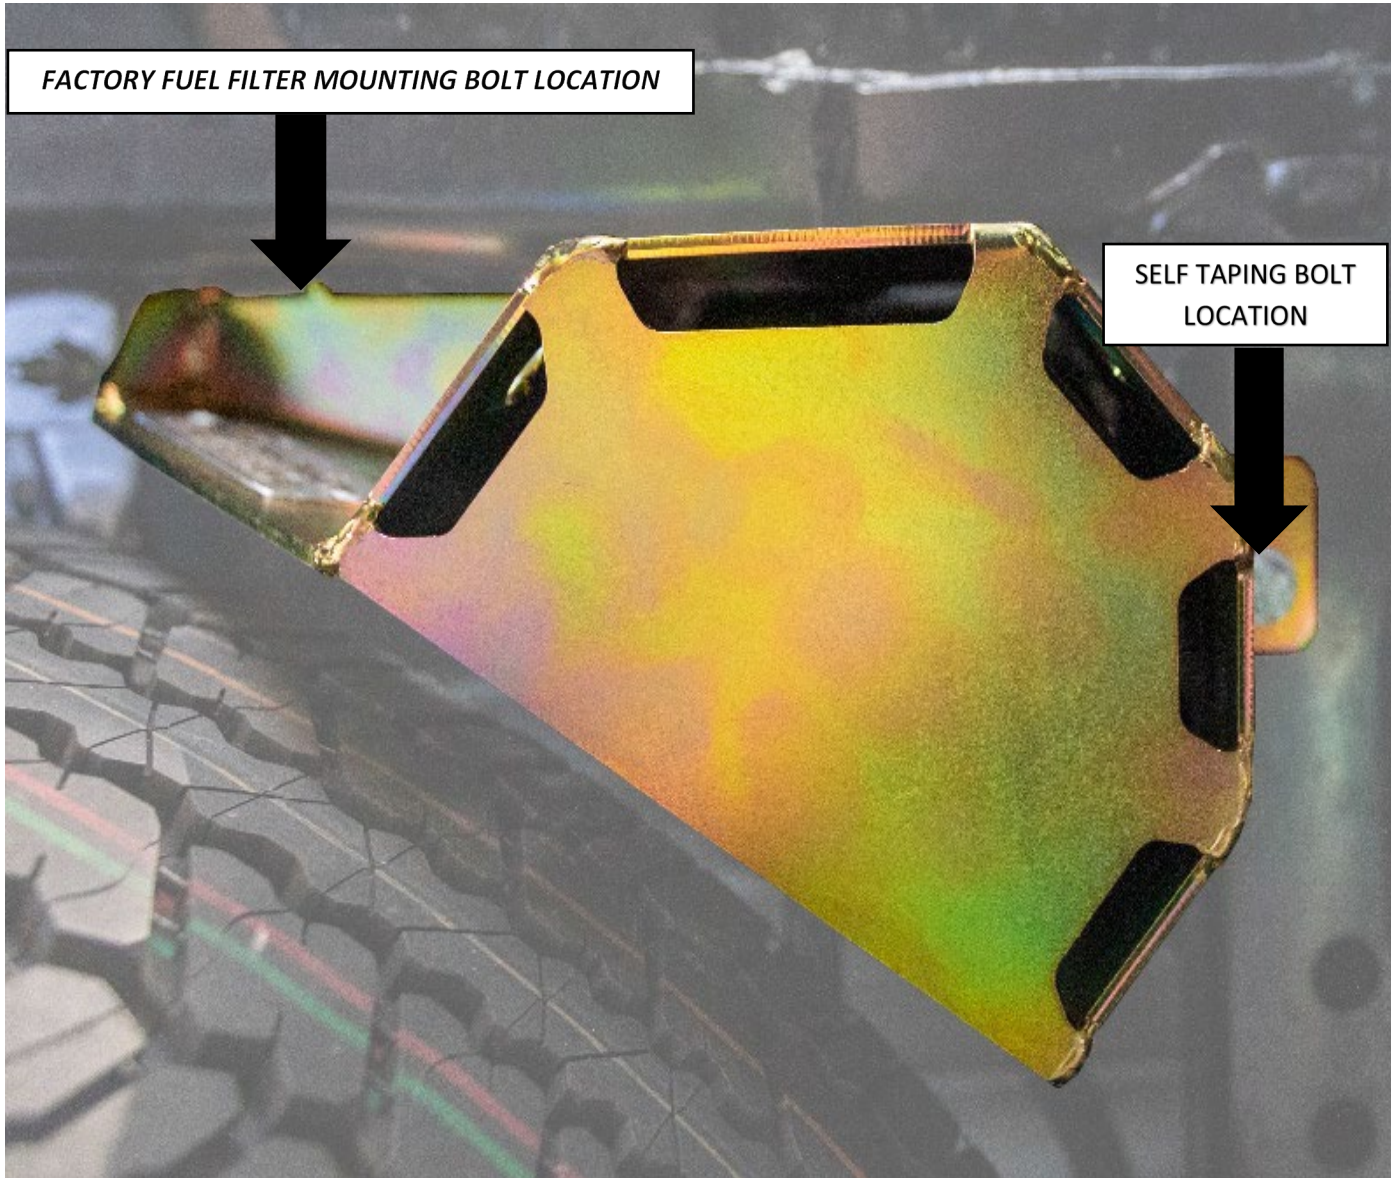

Figure 3
5. Gently Pry the Fuel Filter mount 3mm off the chassis just enough to place Fuel Filter Guard in location as seen in **Figure 3**.